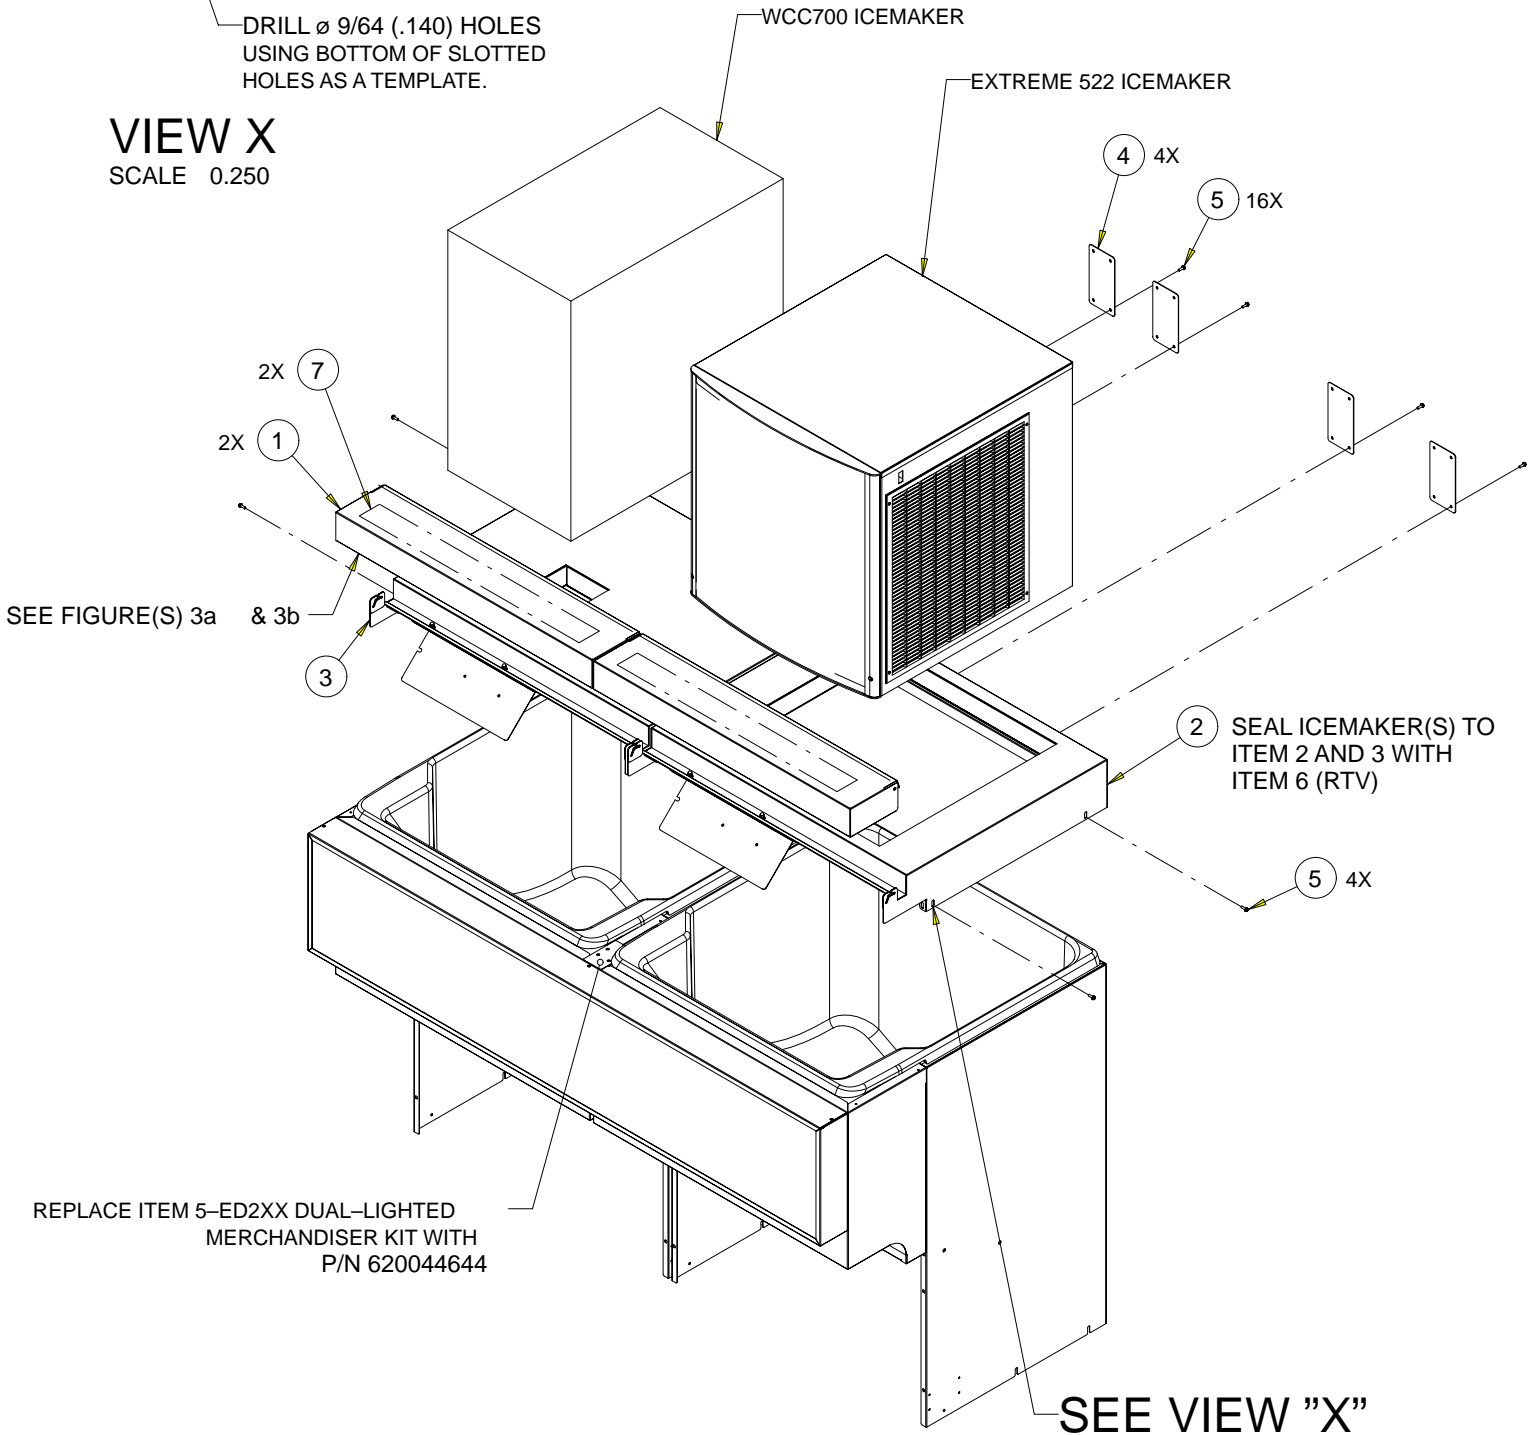

FIGURE 2. DISPENSER ASSEMBLY
3. Replace the center-mounting bracket supplied with the dual merchandiser kit with the top cover plate supplied with this kit (item 15). Failure to do this will prevent the adapter kit from functioning properly.
4. Set the lid assembly onto the dispenser. Using the slotted holes on the side of the lid as a template, drill four (4) 9/64" diameter holes at the bottom of the slots (Figure 2).
7. Attach the mounting brackets (item 4) to the to the ice makers and lid assemblies with the the #8 sheet metal screws (item 5) (figure 2).
9. Install the bin-stat (item 14) per the instructions provided with that kit.